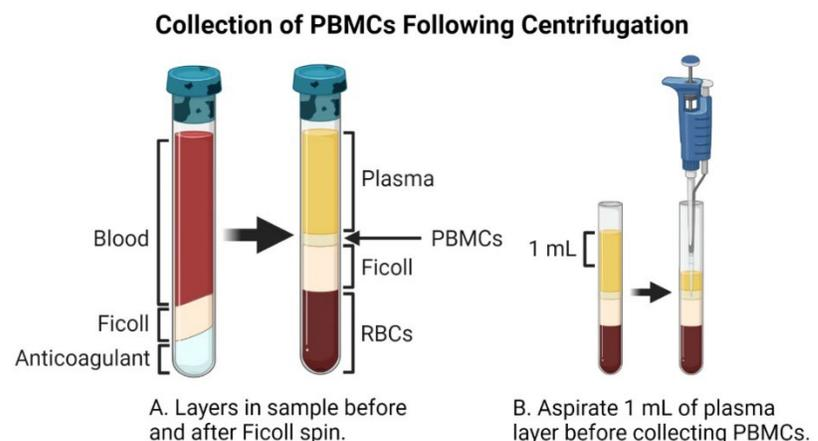

Fig. 1 | Position of PBMCs before and after centrifugation
3. After the centrifugation, the PBMCs are concentrated in a whitish layer just beneath the plasma layer (see Fig. 1).
4. Aspirate approximately half of the plasma using a 1000 µl pipette without disturbing the mononuclear cell band (PBMC layer; see Fig. 1).